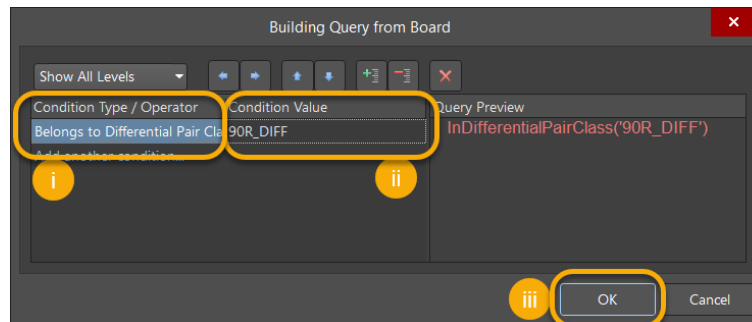

Figure 19. Building Query for the 90R\_DIFF class
- d) Select the **Ellipsis** button and choose **Open Query Builder** (Figure 19).